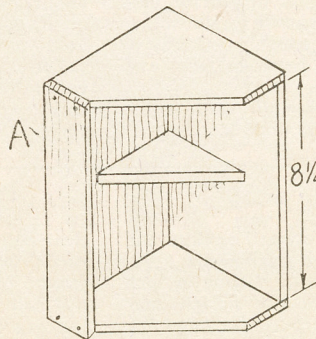

Fig. 1—Cupboard construction
The general construction is plainly shown in Fig. 1. The carcase is made up of $\frac{3}{8}$ in. thick deal, with $\frac{1}{4}$ in. thick better class wood for side panels and door. Fretwood will do for the latter parts, especially if the marquetry decoration is to be used, as deal is not suitable as a foundation for the craft.
The addition of a small shelf, as seen in Fig. 1, is entirely optional. Such a shelf can be useful, but should not occupy too much of the space if the cupboard is intended for medicine, or there may be insufficient room for them to stand upright.
round-headed screws at top and bottom (one is shown in position at (A) in Fig. 1) only for subsequent easy removal.